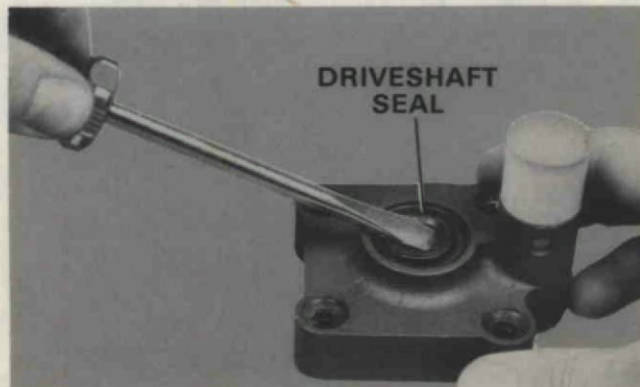

Figure 20. Removing Driveshaft Seal.
- A. Pry seal out of bore of pump body. Figure 20.